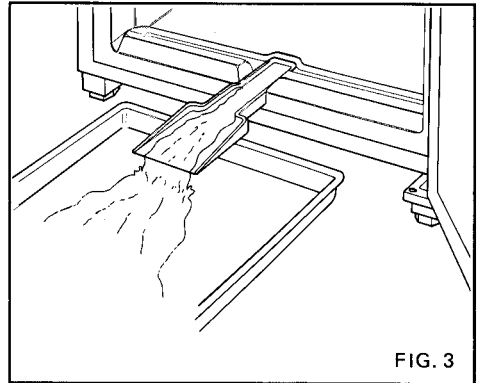

FIG. 3
3. Place the handle of the plastic scraper supplied, in the recess at the bottom of the freezer compartment to act as a drainage spout. Put a suitable container under the spout to collect the defrost water, and leave the door open. (see fig. 3).